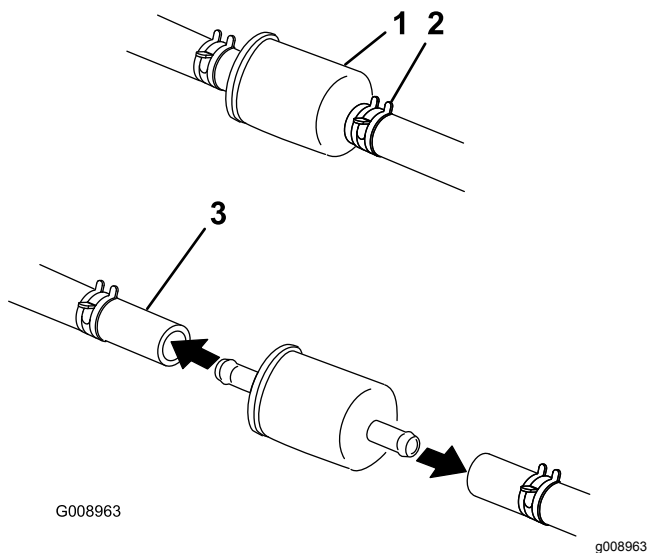

Figure 54
5. Squeeze the ends of the hose clamps together and slide them away from the filter (Figure 54).
7. Install a new filter and move the hose clamps close to the filter (Figure 54).